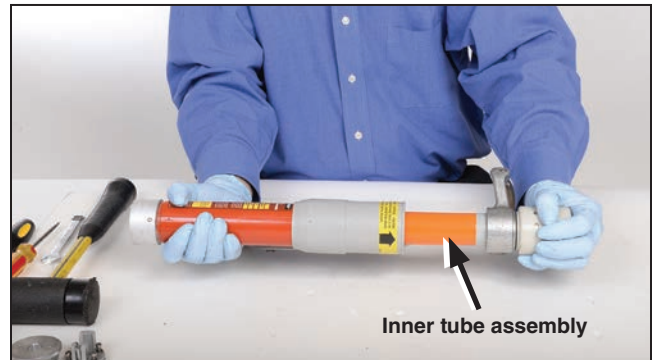

Figure 7. Remove the inner tube assembly.
8. **RESETTING.** Keep hands clear during resetting. The Loadbuster tool is spring-loaded. Pulling the resetting latch will cause the anchor end of the tool to move down quickly. Keep hands in the position shown in Figure 7 on page 14 in S&C Instruction Sheet 811-505.
STEP 5. Carefully withdraw the inner tube assembly from the chassis. See Figure 7.